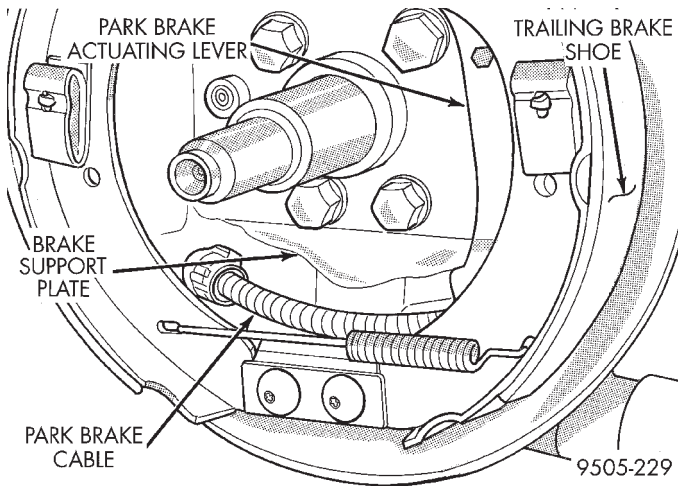
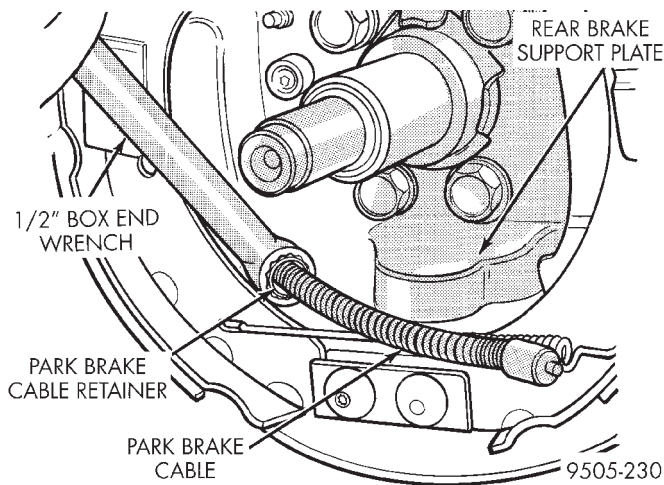

Fig. 8 Park Brake Cable Attachment To Actuating Lever
Fig. 9 Park Brake Cable Removal From Brake Support Plate
- (5) Remove the park brake cable from the park brake actuating lever (Fig. 8). Then remove the park brake cable from the rear brake support plate (Fig. 9). Park brake cable is removed from brake support plate using this procedure. Position a 1/2 inch box end wrench over cable retainer (Fig. 9) to collapse retaining tabs. Then pull rear brake cable from brake support plate.